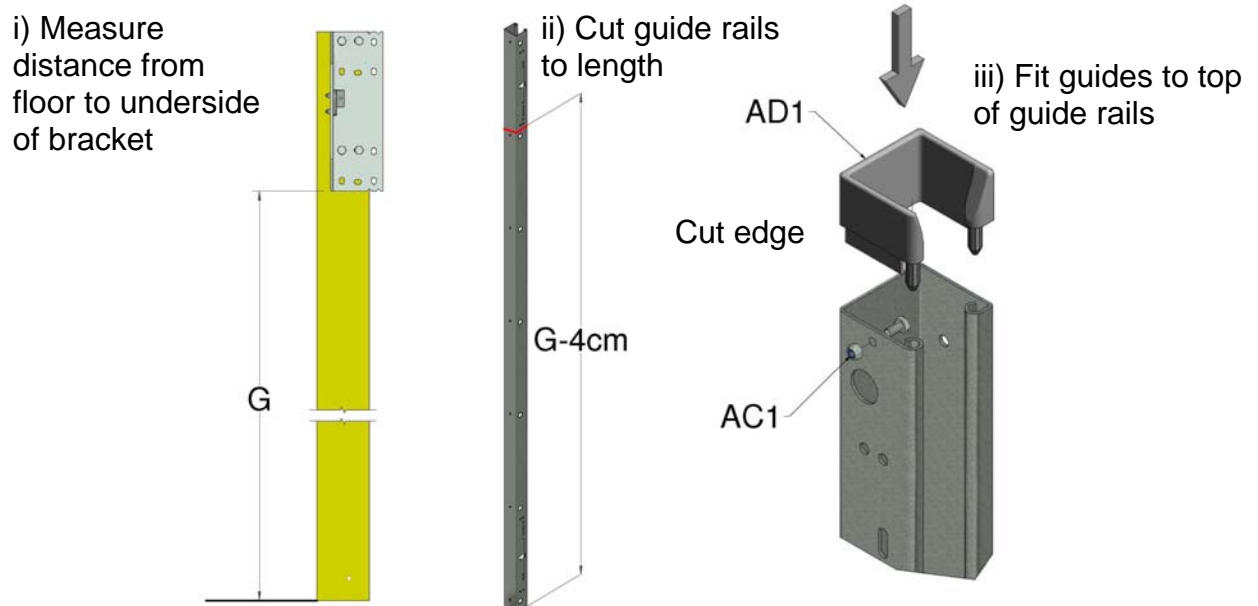

Figure 11, Cutting Lengths of Guide Rails
9. Equally cut the guide rails (I1) to fill the gap between the underside of the top brackets and the ground allowing 4 cm for the guide (AD1). Always cut the top of the guide rail to leave the slot/ hole arrangement at the bottom for the fitting of the locking catches. Fit the pair of guides into the top of the guide rails (cut end) and secure with the M6x12 bolt and nut (AC1) in the front face, Figure 11.